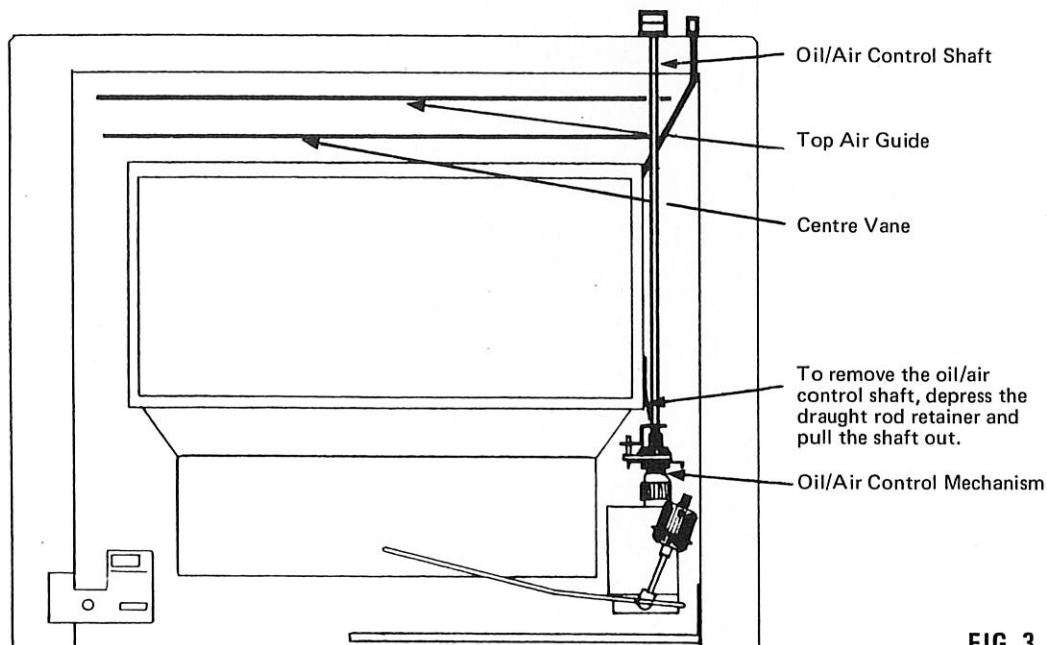

FIG. 3
3. Remove oil and air control shaft. Turn air control to number 2 position. Depress draught rod retainer and pull control rod out. It may be necessary to twist shaft assembly to get through top air guide. [Fig. 3]